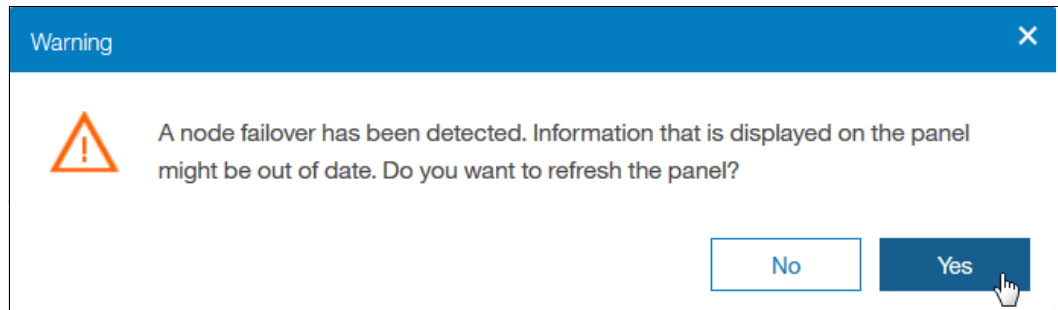

Figure 12-58 Configuration node failover warning
14. After you remove the configuration node from the cluster, you are asked whether you want to refresh the window, as shown in Figure 12-58. Select **Yes**.